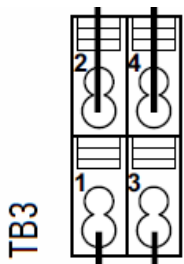

Fig.: 2-pin terminal TB3
- Connect the other inverters to each other in the same way (see Figure: 2-pin terminal TB3)